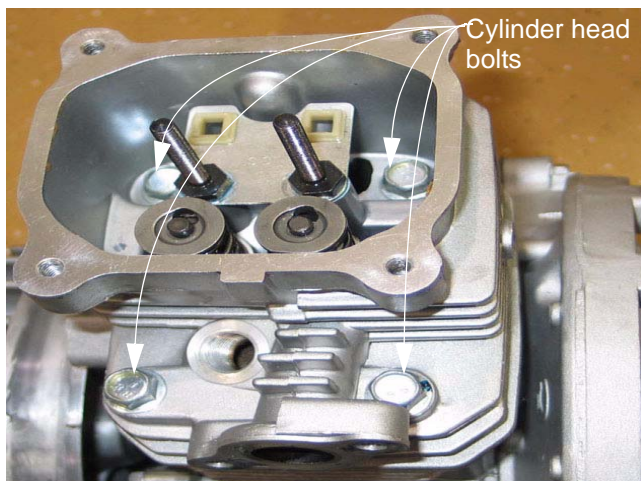

Figure 9.4
- Remove the cylinder head bolts using a 14mm wrench. See Figure 9.4.